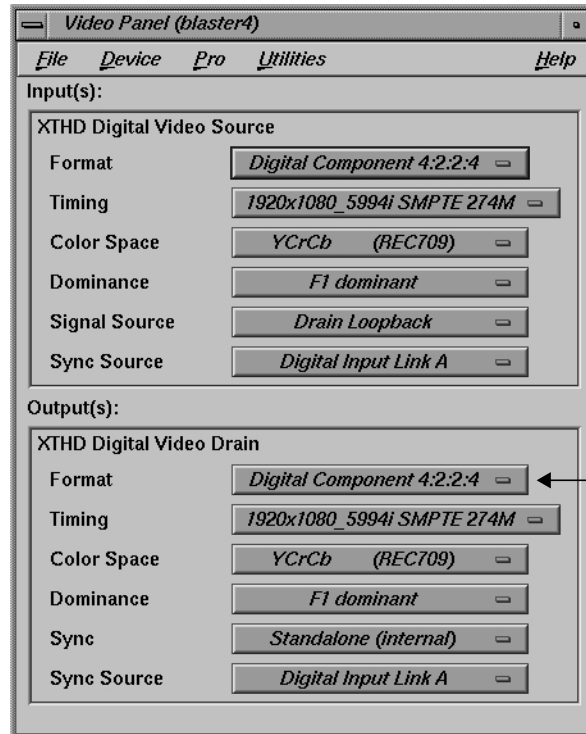

Figure B-4 Selecting Video Drain Format
4. In the Output(s): Video Drain section of the control panel (pointed out in Figure B-4), select the format that matches your equipment: Digital Component 4:2:2:4 (the default) or Digital Component 4:4:4:4.